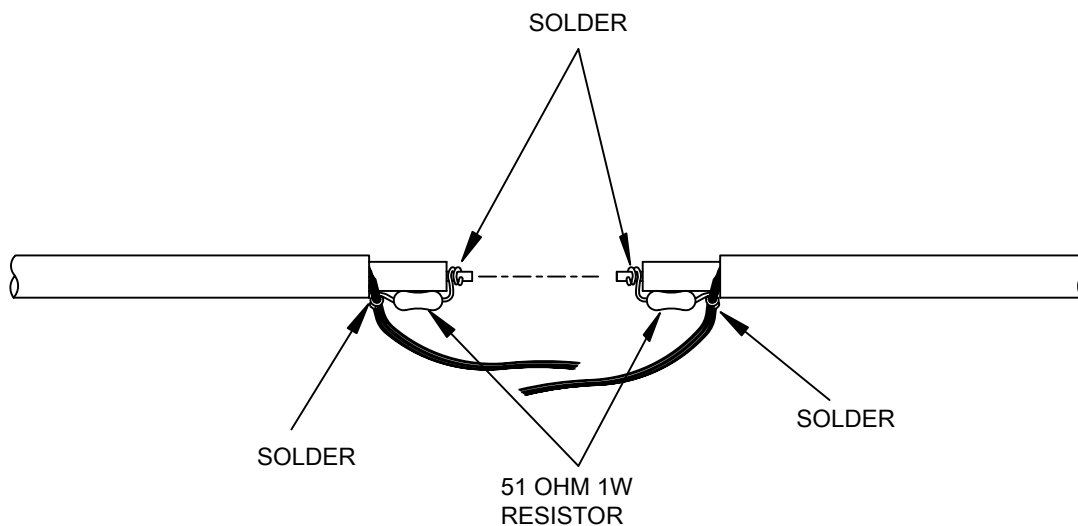

Figure 6.22 – Attaching Resistor and Soldering for MTI
- **Step 4:** Place a resistor along side the cable as shown in Figure 6.22. Twist the lead wire around the center conductor as shown. Twist the other lead around the braid wire as shown. Solder both connections.